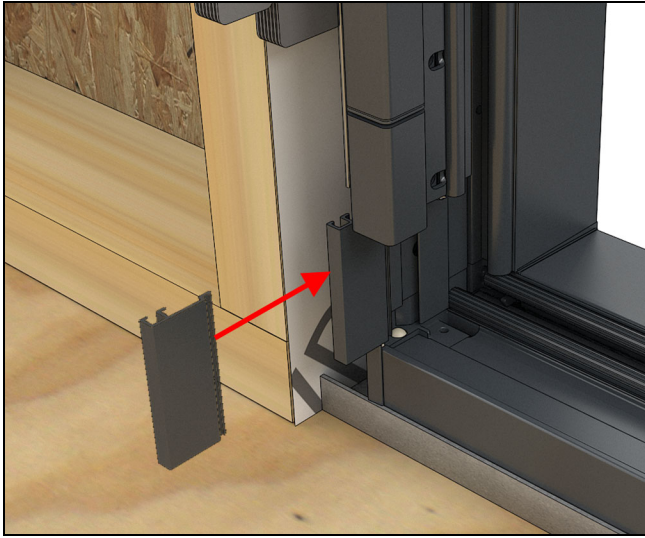
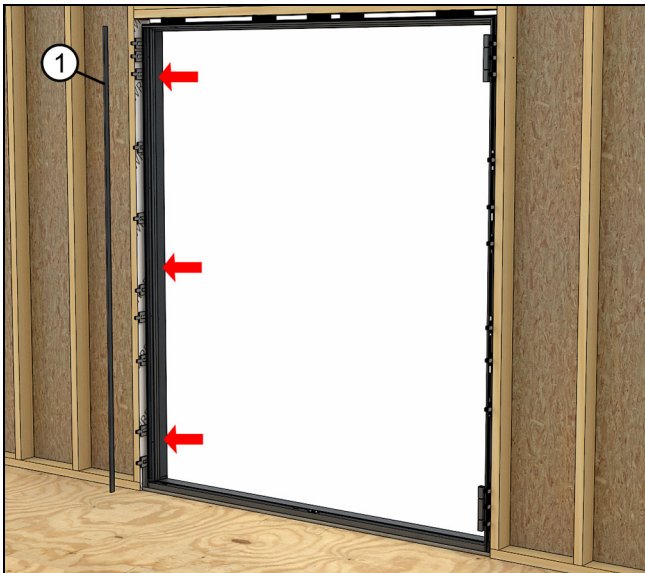

Figure 49 Hinge jamb configurations
Figure 50 Stationary configurations
14. On hinge jamba, slide the small aluminum jamb cover on the frame below the lower hinge. On stationary jamba, the cover is full height. See Figure 49 and Figure 50.